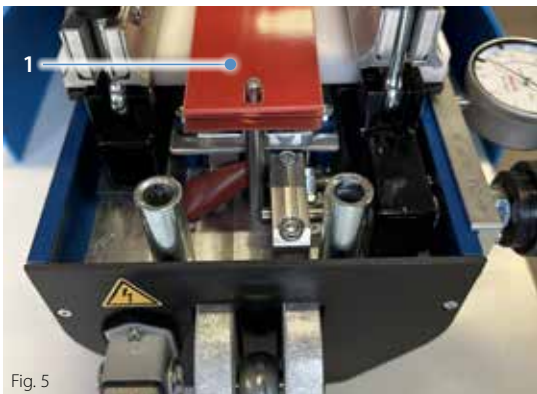

Fig. 5
- Place the layers required to line the press (top face) (1) onto the splice. (Fig. 5)